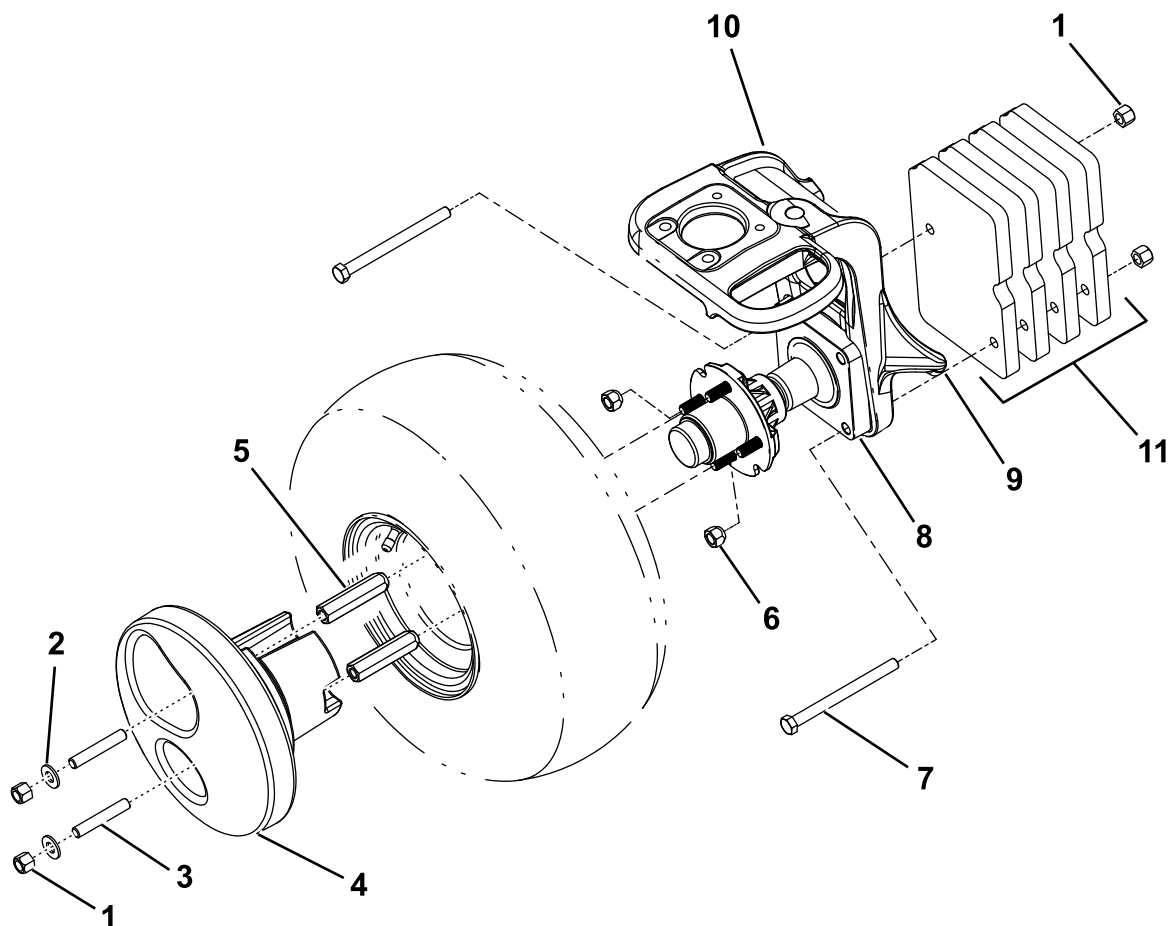

Figure 1
3. Raise the machine with a jack at the jack point (Figure 1).
4. Remove the 4 lug nuts on the wheel in pairs positioned diagonally from each other (Figure 1).
6. Remove the 2 retaining bolts that secure the spindle to the castor fork (Figure 1).
7. Mount 4 weight plates from the kit to the right-hand side of the castor fork with 2 hex-head bolts (1/2 x 6 inch) and 2 locknuts from the kit (Figure 1).